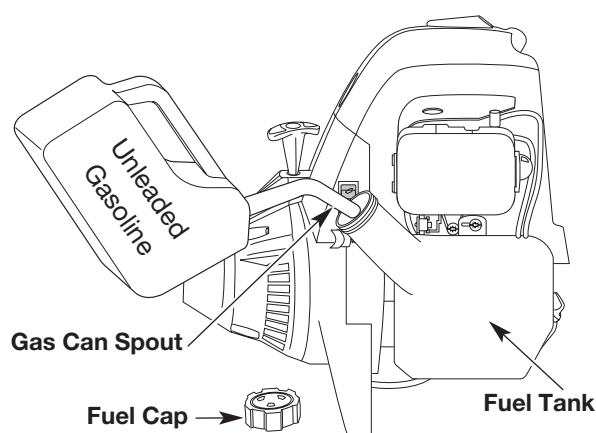

Fig. 18
1. Remove the fuel cap (Fig. 18).
2. Place the gas container's spout into the fill hole on the fuel tank (Fig. 18) and fill the tank.